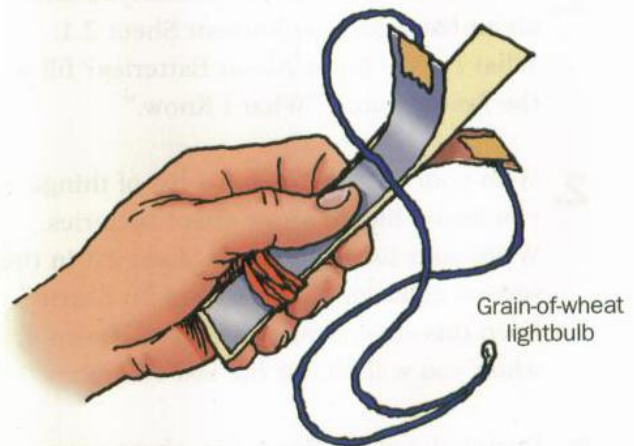

Figure 2.4 You can attach the lightbulb to the zinc and copper strips with masking tape.
5. Use your lightbulb and perform your test. Figure 2.4 shows one way to do this. Record your observations.